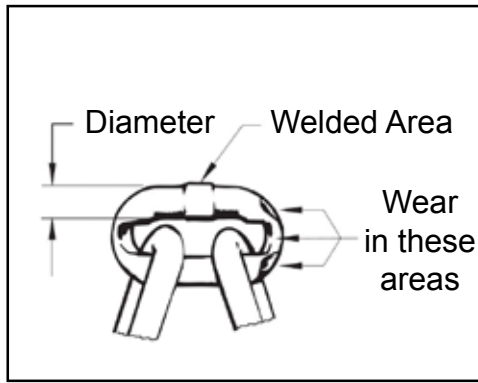

FIGURE 5
- » CHAIN: Examine each link for bending, cracks in weld areas or shoulders, transverse nicks and gouges, weld spatter, corrosion pits, striation (minute parallel lines) and chain wear, including bearing surfaces between chain links (See Figure 5). Replace a chain that fails any of these inspections. Check lubrication and lubricate if necessary.